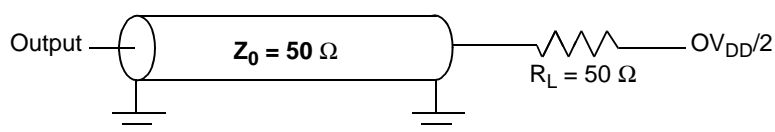
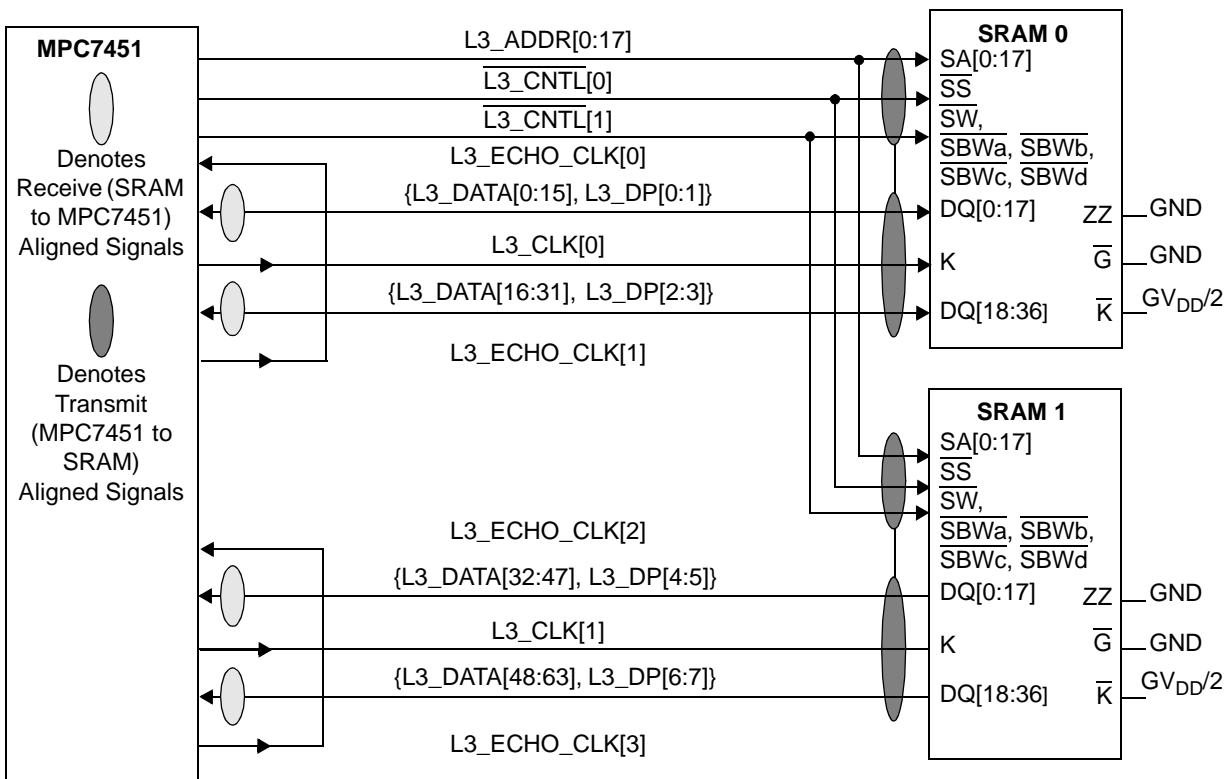
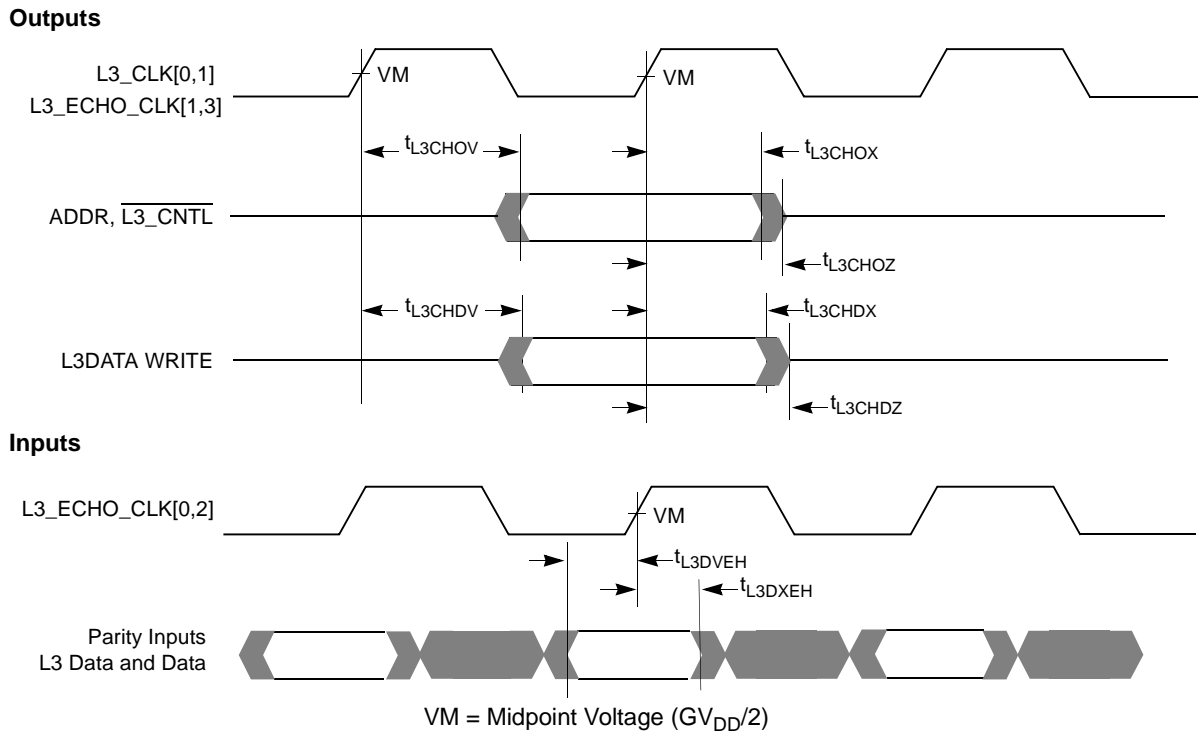

Figure 8. AC Test Load for the L3 Interface
Figure 11. Typical Synchronous 1-MByte L3 Cache Late Write or PB2 Interface
Figure 12. L3 Bus Timing Diagrams for Late Write or PB2 SRAMs
- For high speed operations, L3 interface address and control signals should be a “T” with minimal stubs to the two loads; data and clock signals should be point-to-point to their single load. Figure 8 shows the AC test load for the L3 interface.
More specifically, certain signals within groups should be delay-matched with others in the same group while intergroup routing is less critical. Only the address and control signals are common to both SRAMs and additional timing margin is available for these signals. The double-clocked data signals are grouped with individual clocks as shown in Figure 9 or Figure 11, depending on the type of SRAM. For example, for the MSUG2 DDR SRAM (see Figure 9); L3DATA[0:31], L3DP[0:3], and L3\_CLK[0] form a closely coupled group of outputs from the MPC7451; while L3DATA[0:15], L3DP[0:1], and L3\_ECHO\_CLK[0] form a closely coupled group of inputs.
Table 12 provides the L3 bus interface AC timing specifications for the configuration as shown in Figure 9, assuming the timing relationships shown in Figure 10 and the loading shown in Figure 8.
5. All output specifications are measured from the midpoint voltage of the rising (or for DDR write data, also the falling) edge of L3\_CLK to the midpoint of the signal in question. The output timings are measured at the pins. All output timings assume a purely resistive 50- $\Omega$  load (see Figure 8).
When using PB2 or Late Write SRAMs at the L3 interface, the parts should be connected as shown in Figure 11. These SRAMs are synchronous to the MPC7451; one  $L3\_CLK_n$  signal is output to each SRAM to latch address, control, and write data. Read data is launched by the SRAM synchronous to the delayed  $L3\_CLK_n$  signal it received. The MPC7451 needs a copy of that delayed clock which launched the SRAM read data to know when the returning data will be valid. Therefore,  $L3\_ECHO\_CLK1$  and  $L3\_ECHO\_CLK3$  must be routed halfway to the SRAMs and then returned to the MPC7451 inputs  $L3\_ECHO\_CLK0$  and  $L3\_ECHO\_CLK2$  respectively. Thus,  $L3\_ECHO\_CLK0$  and  $L3\_ECHO\_CLK2$  are phase-aligned with the input clock received at the SRAMs. The MPC7451 will latch the incoming data on the rising edge of  $L3\_ECHO\_CLK0$  and  $L3\_ECHO\_CLK2$ .
Table 13 provides the L3 bus interface AC timing specifications for the configuration shown in Figure 11, assuming the timing relationships of Figure 12 and the loading of Figure 8.
Figure 11 shows the typical connection diagram for the MPC7451 interfaced to PB2 SRAMs, such as the Motorola MCM63R737, or Late Write SRAMs, such as the Motorola MCM63R836A.
Figure 12 shows the L3 bus timing diagrams for the MPC7451 interfaced to PB2 or Late Write SRAMs.